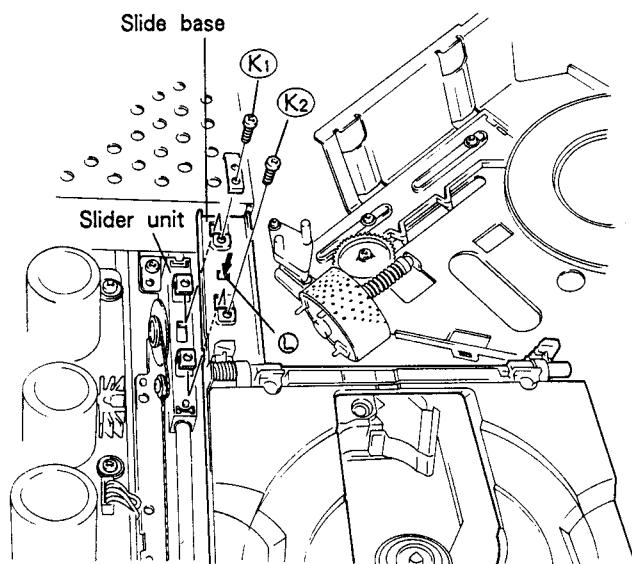

Fig. 2-3.
3. Remove the fixing screws K_1 and K_2 of the tray assembly and remove the slide base from the slider unit of the loading mechanism assembly by pushing the claw I . (Refer to Fig. 2-3).